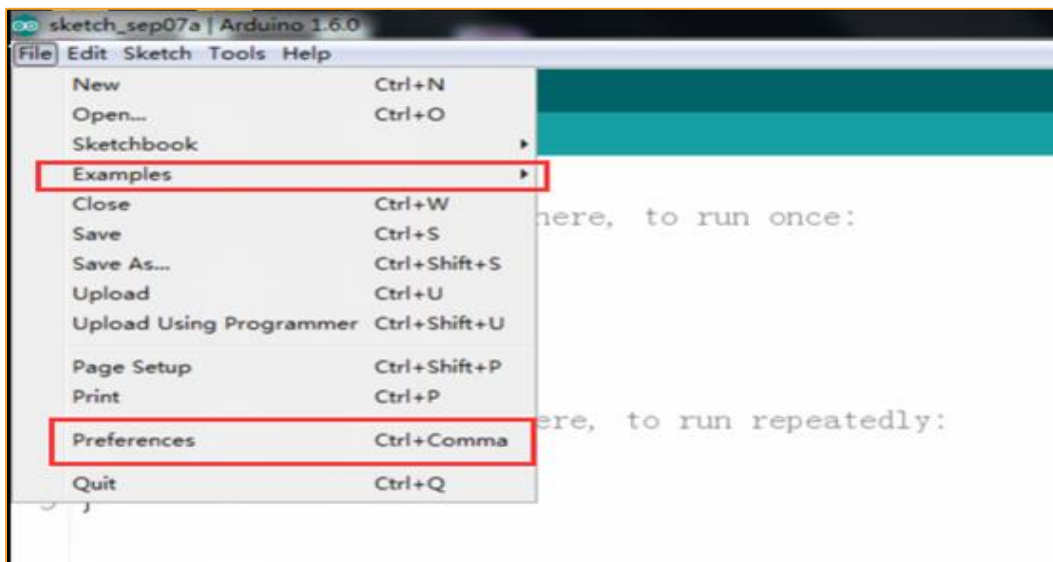

Figure 4-11 File menu bar options
- There are 5 menus on the menu bar, but we mainly introduce File and Tools. Click File, the interface shown in Figure 4-11, you can see the Examples and Preference options. Examples are some of the Arduino's own programs, these are compiled and can be used normally, which is very helpful for beginners. The Preference option is mainly the setting of parameters, such as language, font, etc.